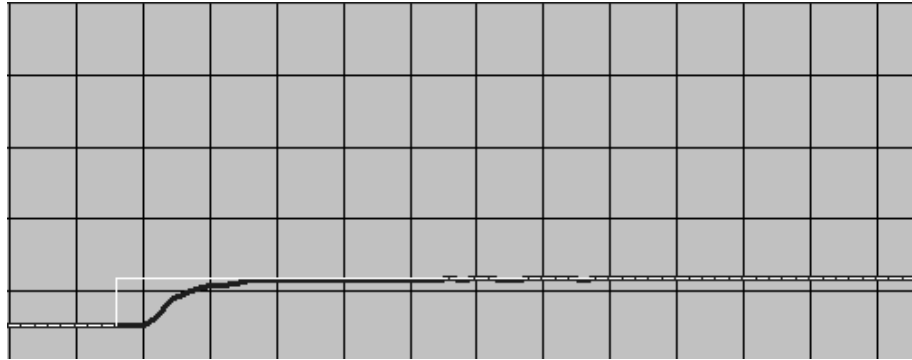

Figure 10: Effects of the Integral Term (Low Integral Term)
The action of the Integral (I) term creates a valve drive signal that is proportional to the magnitude and sign of the area under the error signal curve (error signal with respect to time). Therefore, as time passes, the integral term acts to position the valve to reduce the error signal to zero. An increase in the integration time increases the period of time over which the error signal is generated, and the system response gets slower. Figures 10 and 11 show the effect of the Integral term.